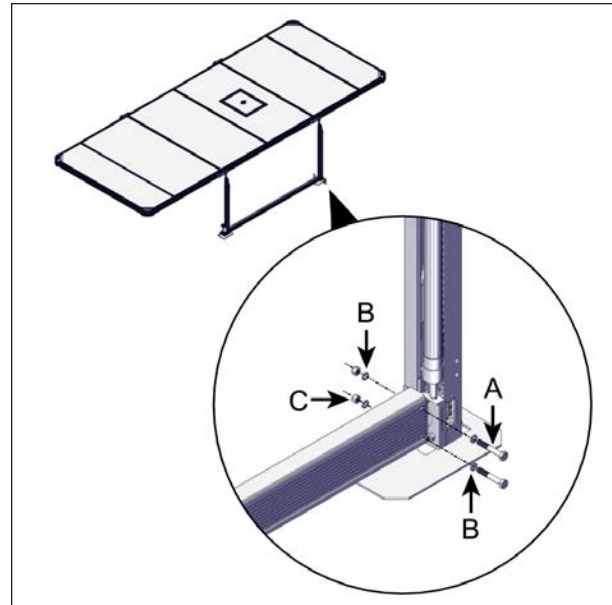

**FIGURE 69: DRIVE SHAFT INSTALLATION ON THE NON-MOTOR SIDE**
- On the same spa side, install the drive shaft onto the non-motorized jack shaft, see Figure 69.
If the drive shaft does not line up with the non-motorized jack shaft, the use of a 3/4" (19 mm) wrench or adjustable wrench can help. Slightly rotate the shaft as shown in Figure 69.